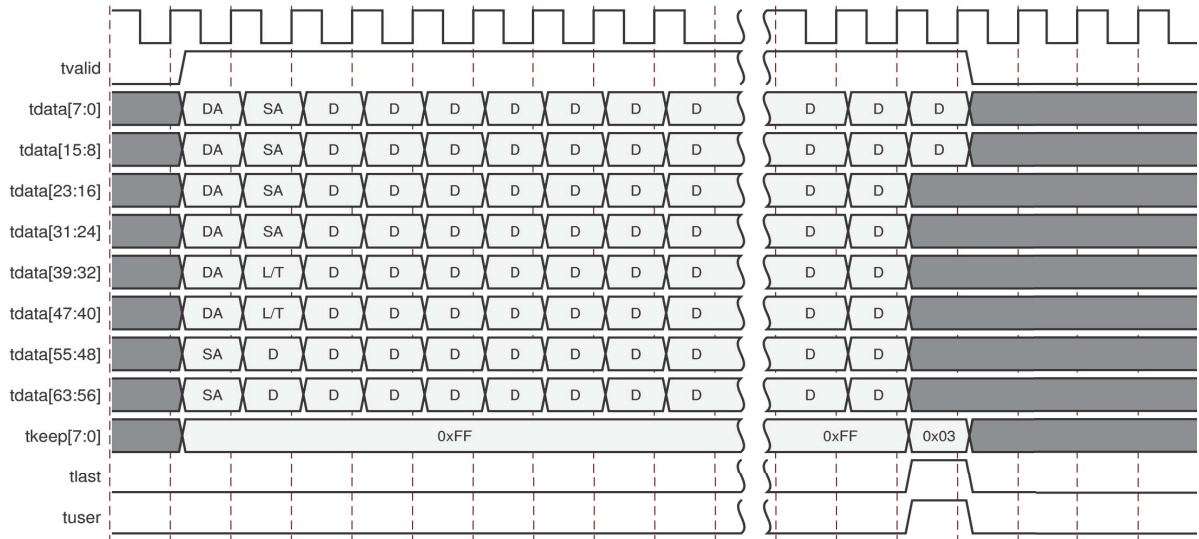

Figure 2-5: Frame Reception with Errors
- An explicit error in which a frame transfer is aborted by deasserting `tx_axis_tuser` High while `tx_axis_tlast` is High (See Figure 2-5).
The case of an unsuccessful frame reception (for example, a runt frame or a frame with an incorrect FCS) is shown in Figure 2-5. In this case, the bad frame is received and the signal `rx_axis_tuser` is asserted to the client at the end of the frame. It is then the responsibility of the client to drop the data already transferred for this frame.